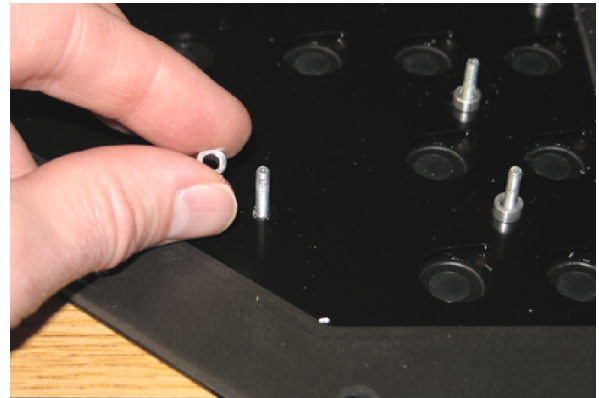

FIG. 6
4. Remove the eleven aluminum spacers from the instrument panel label. Set the spacers aside. Discard the instrument panel label. Refer to Fig. 6.
5. Place the eleven aluminum spacers onto the new instrument panel label (1). Refer to Fig. 6.